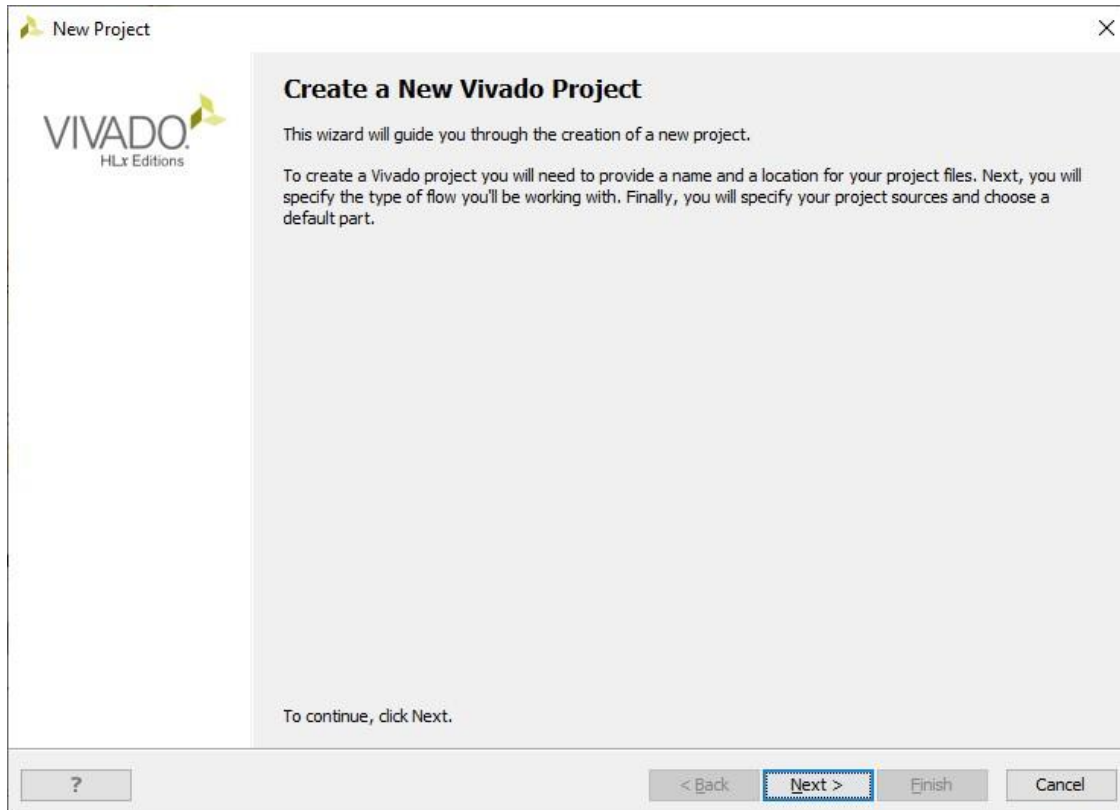

Figure 2: Create New Project Wizard.
2. From the Getting Started screen, select **Create New Project**. The New Project Wizard opens (Figure 2).